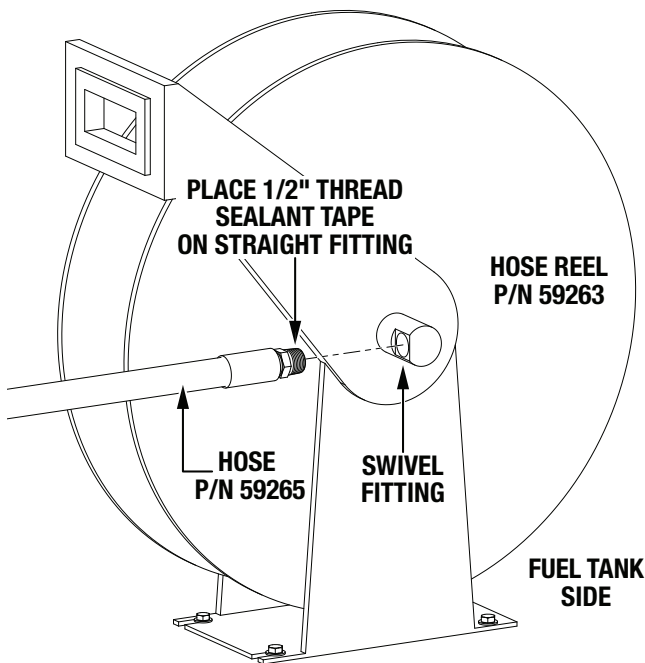

Figure 32. Connect Hose to Reel
1. Place 1/2" thread sealant tape onto the straight fitting on the hose (P/N 59265). See Figure 32.
2. On the fuel tank side of the air compressor, connect the straight fitting on the hose (P/N 59265) to the swivel fitting on the hose reel (P/N 59263), and tighten securely. See Figure 32.